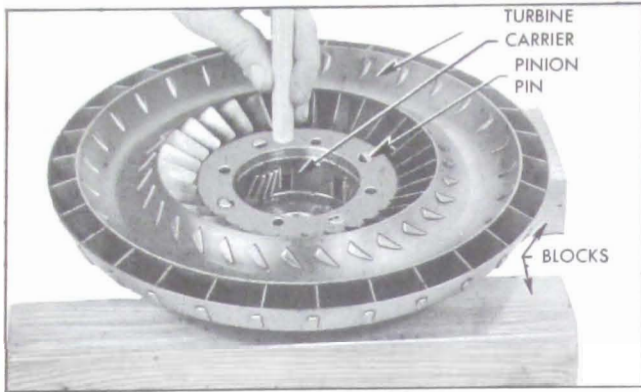

Figure 5-60—Installing Turbine on Carrier
3. Use a hammer and hardwood dowel or other soft punch to tap the turbine down over the carrier. Avoid distortion of turbine by using light blows applied midway between holes and alternated from side to side to keep parts square with each other. See Figure 5-60.